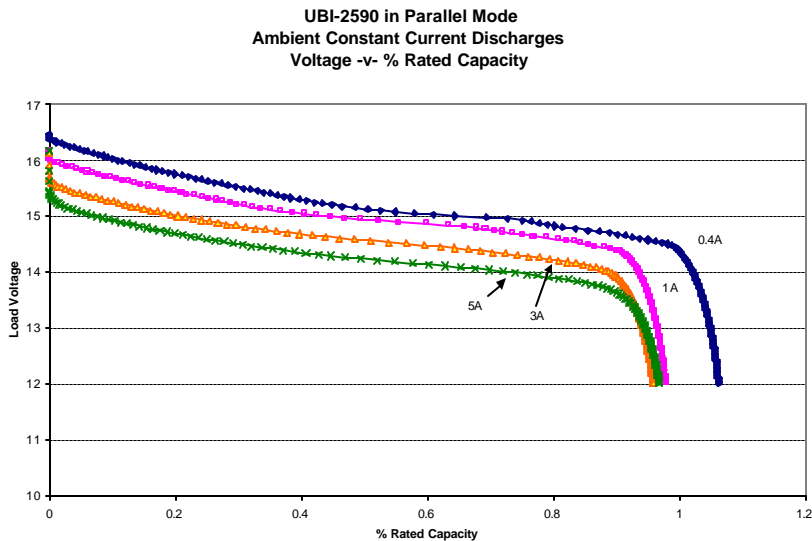

Figure 5
- 11.3. Parallel Mode (16.4v) Ambient Constant Current Discharges Voltage –v- Rated Capacity (Figure 5)